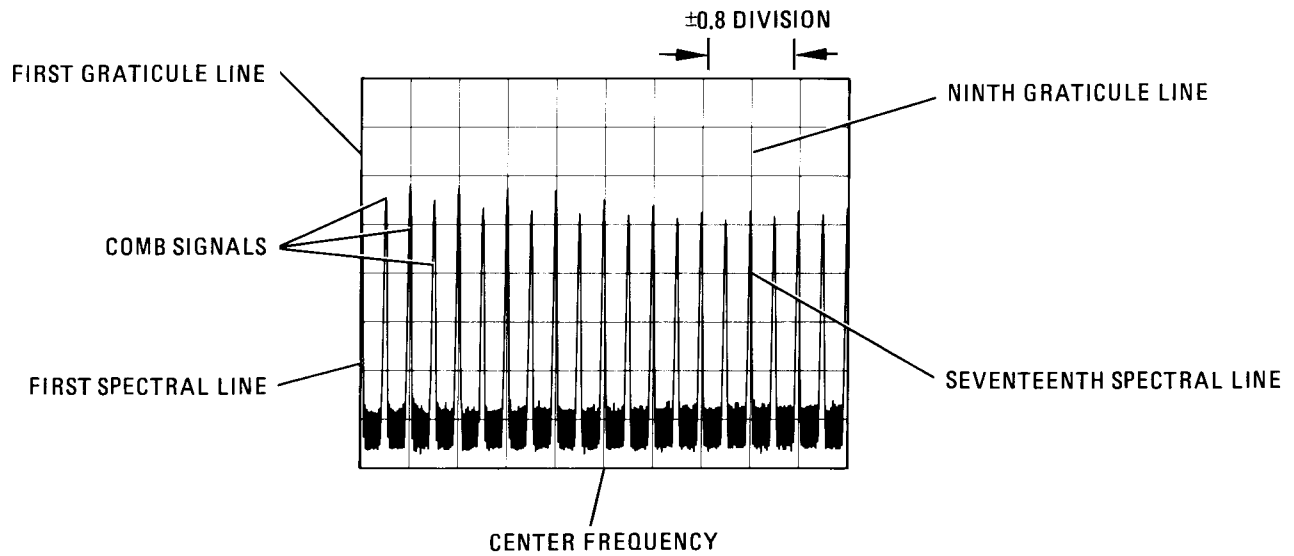

Figure 4-3. Frequency Span Accuracy Measurement for Seventeenth Spectral Line
4. Set spectrum analyzer FREQ SPAN/DIV to 20 MHz, RESOLUTION BW to OPTIMUM, and comb generator to 10 MHz comb frequency. Adjust spectrum analyzer TUNING control to position one spectral line (from comb generator) at the first graticule line (far left) of display. Measure error between seventeenth spectral line and ninth graticule line. Error should be  $\pm 0.8$  division, maximum. (See Figure 4-3.)